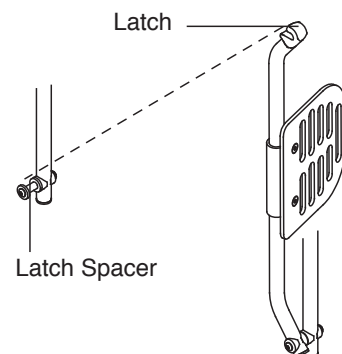

Figure 18
5. Adjust the backrest extension tubes to the desired height. See Figures 18 or 19.